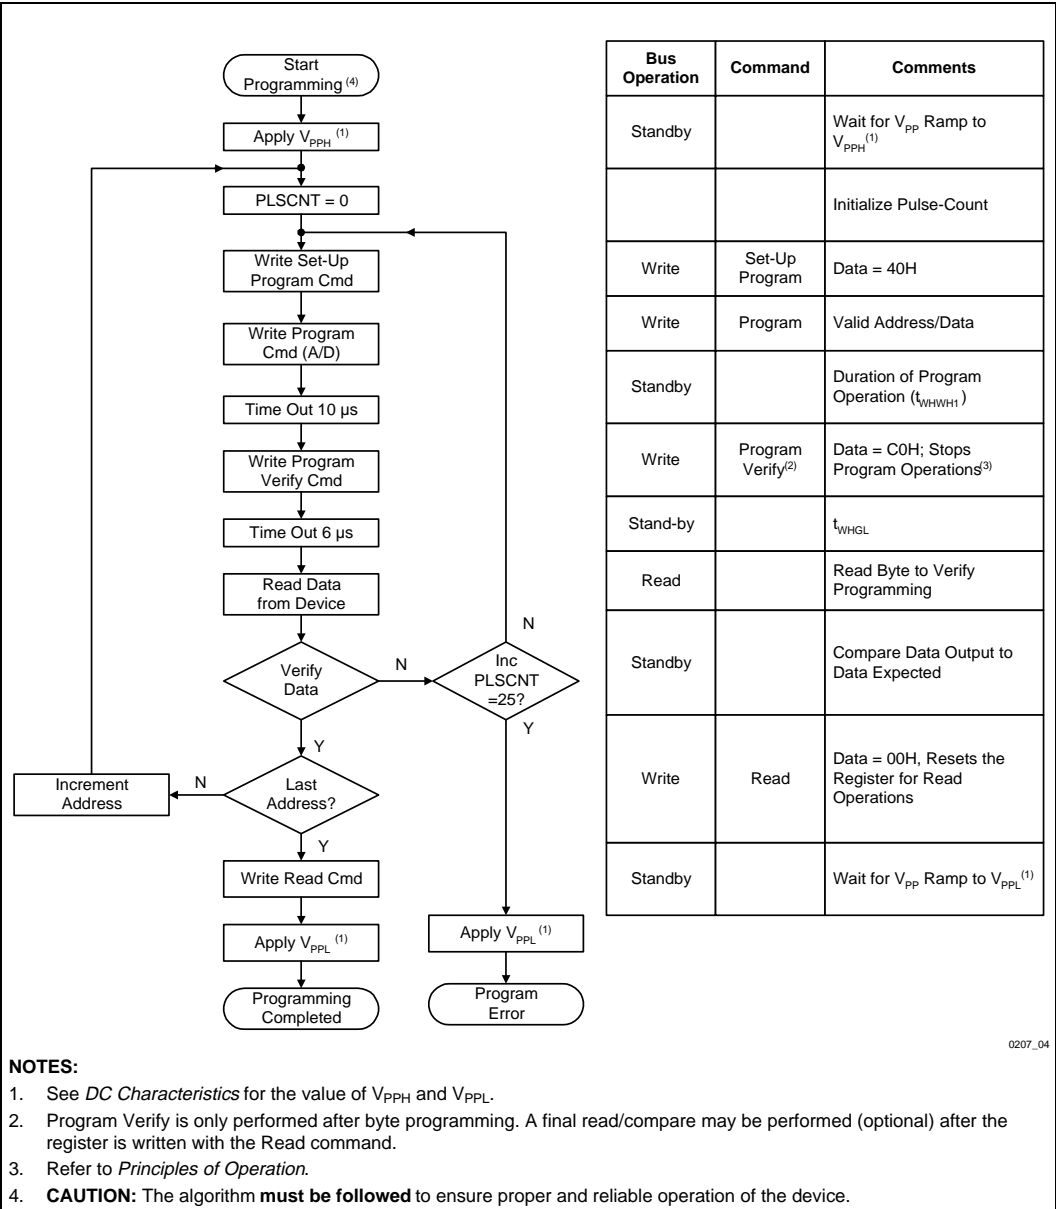

Figure 4. 28F010 Quick-Pulse Programming Algorithm
- Figure 4 illustrates the *28F010 Quick-Pulse Programming Algorithm* flowchart.
The quick-pulse programming algorithm uses programming operations of 10 μ s duration. Each operation is followed by a byte verification to determine when the addressed byte has been successfully programmed. The algorithm allows for up to 25 programming operations per byte, although most bytes verify on the first or second operation. The entire sequence of programming and byte verification is performed with V_{PP} at high voltage. Figure 4 illustrates the *28F010 Quick-Pulse Programming Algorithm* flowchart.